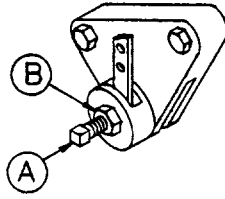

fig. 10
2. To adjust brake at caliper (item #26, pg. 15), loosen locking nut (Item B, fig. 10). Turn adjusting screw (Item A, fig. 10) in until brake is holding. Retighten locking nut (Item B, fig. 10).